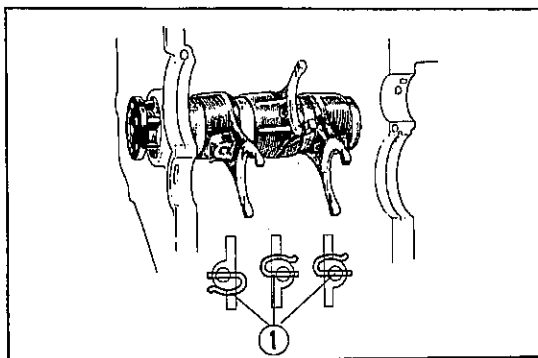

Fig. 128 ① Guide pin clips
3. Place the counterbored section of the shift drum as shown in Fig. 128. Install the steel ball, the spring cap, and the spring. Lock with the shift drum screw. Bend the tab up on the guide screw lock washer to lock the guide screw.